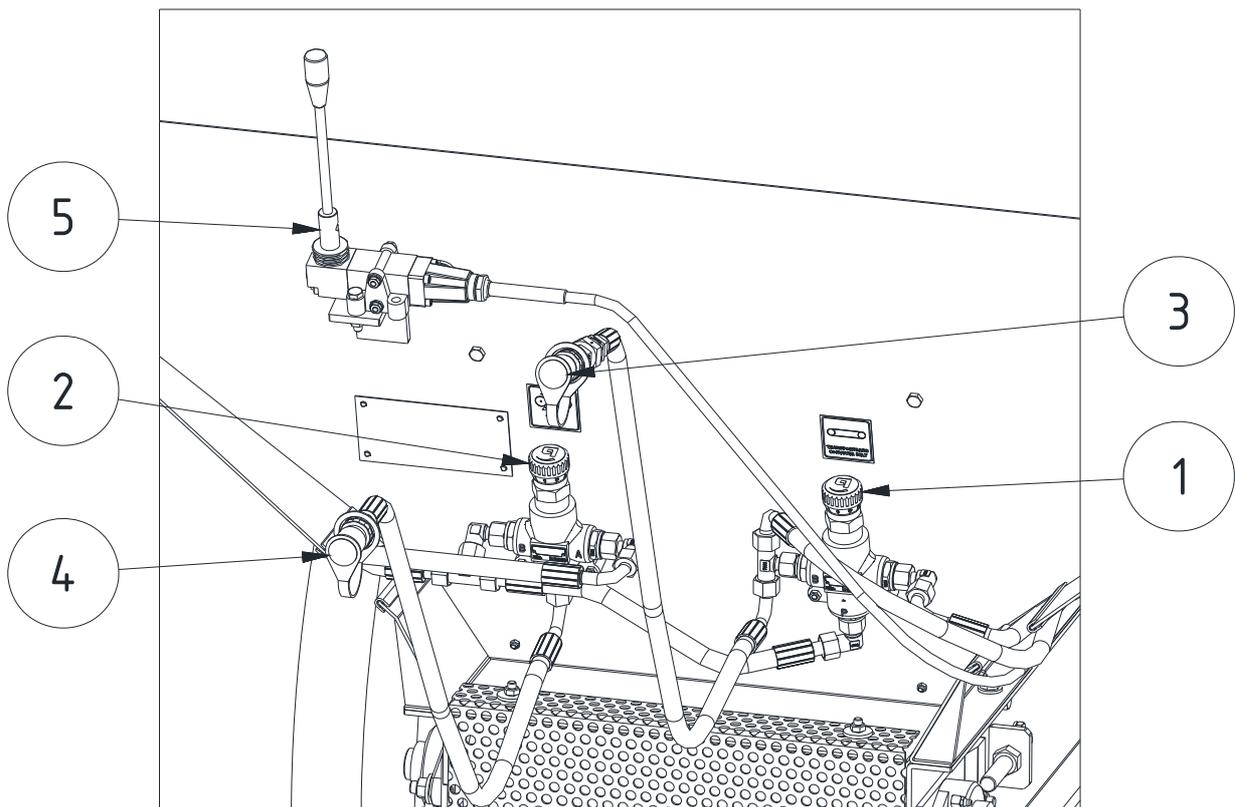

Fig. 1: Controls
- Connect hydraulic lines (3) and (4) to the towing vehicle, as closed oil circulation is required (see p. 9 – fig. 1).
- Connect securely valve actuator (5) for the conveyor belt to the towing vehicle through the supplied mount (see p. 9 – fig. 1).
- Regulation of the conveyor belt speed by regulator (1) (see p. 9 - fig.1)
- Regulation of the spreader disk speed by regulator (2) (see p. 9 - fig.1)